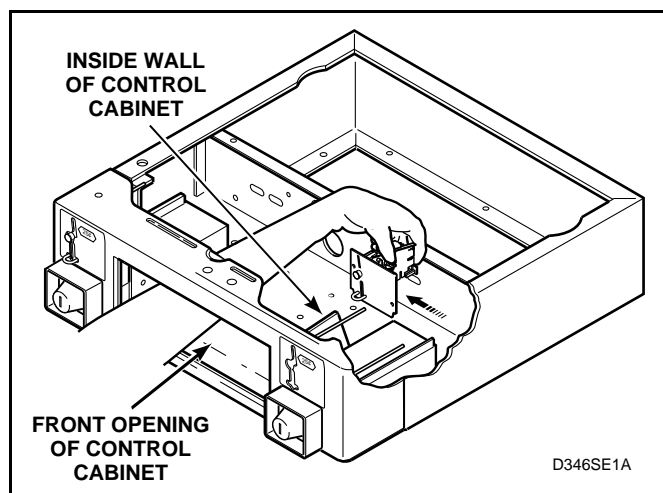

Figure 21
- (9) Carefully slide drop horizontally until drop clears inside wall of control cabinet. Remove drop through front opening of control cabinet. See *Figure 21*.